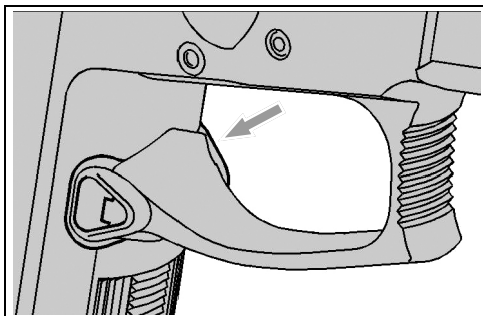

Fig. 5, Pushing in the magazine catch (illustration without trigger)
1. Push in magazine catch **24** until it projects slightly on the opposite side (see Fig. 5).